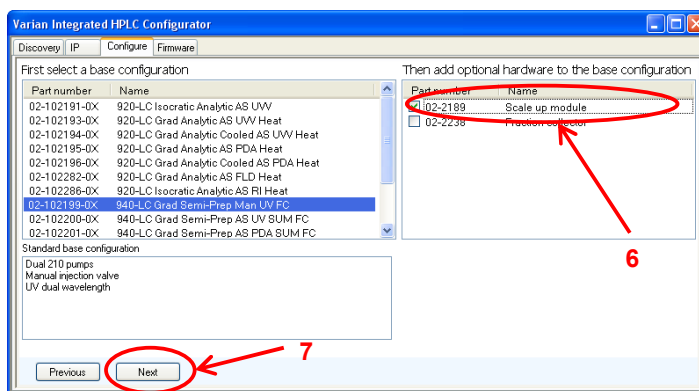

Figure 24: Selecting the Manual Injector Option
5. Click next (7) after selecting the Scale-up module – Prep, and the following window appears (Figure 24). The serial numbers should already be shown. Click Next (8).